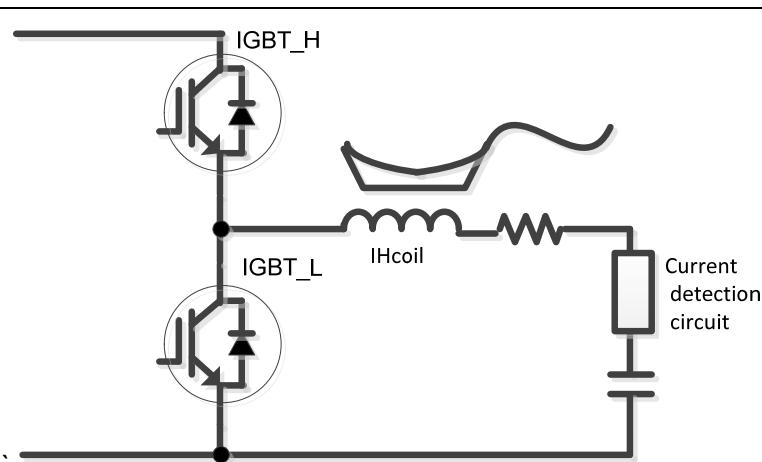

Figure 1.1 Equivalent Circuit of Half-Bridge LC Resonant Circuit
**Figure 1.1** shows an equivalent circuit of the half-bridge LC resonant circuit.